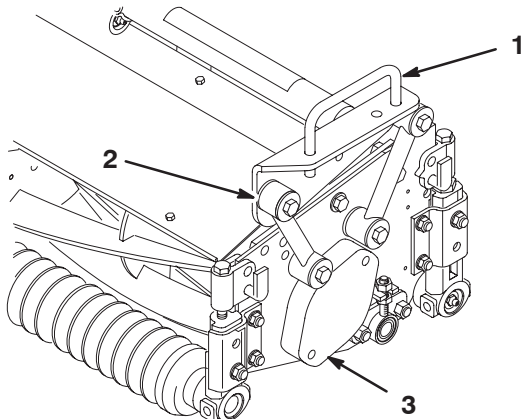
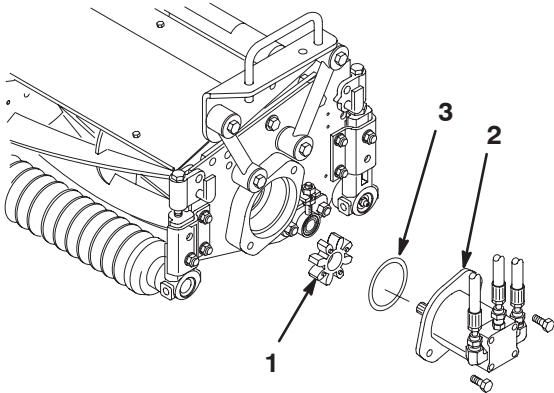

Figure 3
Figure 7
2. Position a carrier frame onto each cutting unit, aligning the mounting holes with the mounting links (Fig. 3).
- Secure each mounting link to the carrier frame with a capscrew (3/8 x 2-1/4 in.), 2 flat washers, and a locknut, as shown in Figure 3. Position a washer on each side of the link when mounting. Torque to 31 ft.-lb. (42 N·m).
2. Remove the bearing housing cover (Fig. 3) from the inside end of the right-hand cutting unit. Install the cover and gasket (supplied with the cutting unit) on the outside end. Locate the spider coupling (Fig. 7) shipped in the bearing housing.
3. Insert the O-ring (supplied with the cutting unit) on the flange of the drive motor (Fig. 7).
4. Mount the motor and the spider coupling to the drive end of the cutting unit and secure them with 2 capscrews provided with the cutting unit (Fig. 7).